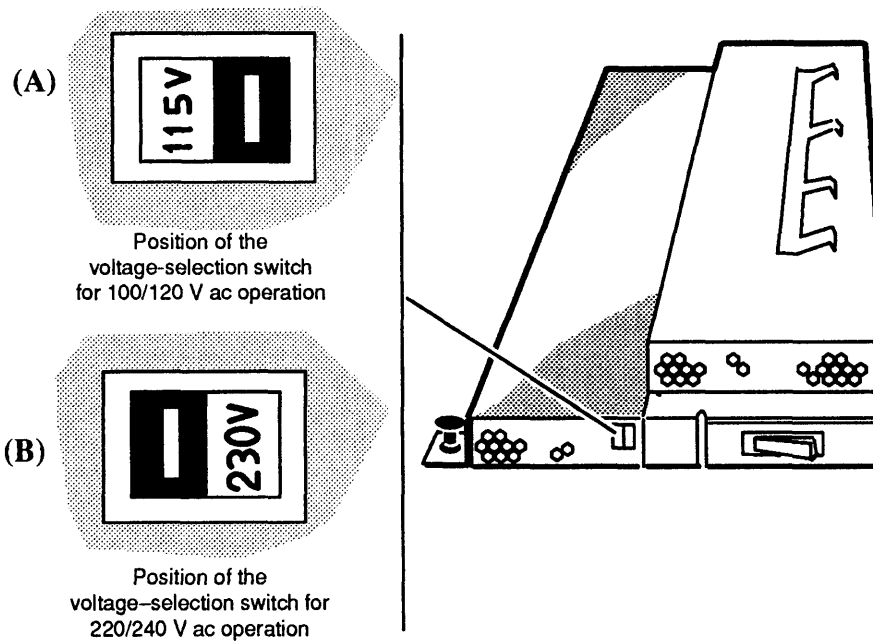

Figure 4-30 Verifying the Correct Voltage Selection Switch Position
2. Make sure the power supply is set to the proper ac line voltage for your site. If the installation site has 100 or 120 V ac power, the voltage-selection switch must be in the “115V” position, as shown in Figure 4-30 (A). If the site has 220 or 240 V ac line voltage, the voltage-selection switch must be in the “230V” position, as shown in Figure 4-30 (B).